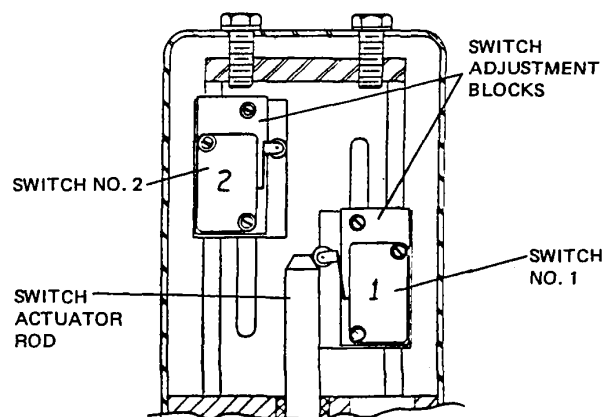

Figure 11. Switch Assembly
For all limit switch maintenance procedures, remove the two capscrews and the switch assembly cover (Figure 11).
- A. Switch no.1 should not be actuated when the actuator rod is fully down, as in Figure 11. Its roller operator should be directly over, and nearly touching,
- C. If side-to-side repositioning is necessary, loosen the cap screws holding the switch blocks shown in Figure 11. Adjust as needed and tighten the cap screws.